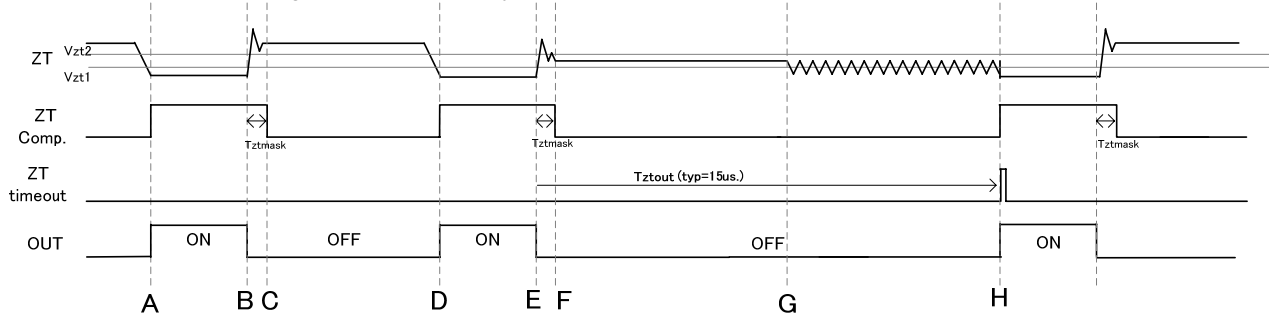

Figure 19. ZT timeout function
(7) ZT timeout function (Figure 19.)